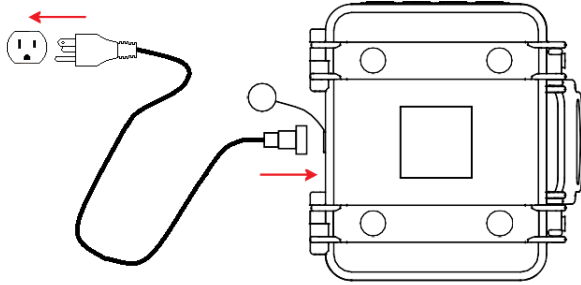

Figure 1-1
1. Remove the connector cover on the instrument (see Figure 1-1).